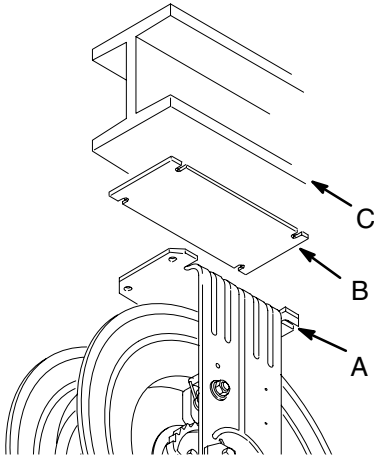

Fig. 7
The reel base has slots (A) to allow two screws to be started before mounting the reel to the support. Using the template (B) provided, drill holes in the I-Beam (C). See Fig. 7.